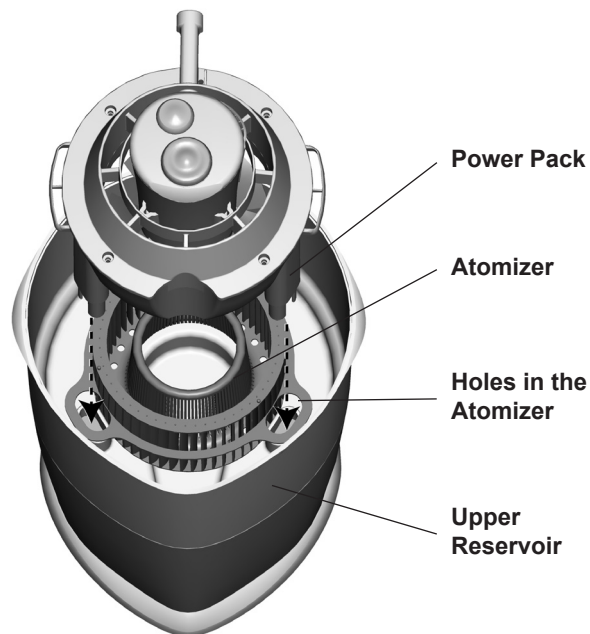

Figure 20
- Place the Power Pack into the Upper Reservoir so that the three prongs in the Power Pack go through all three holes in the Atomizer and into the three prongs in the base of the Upper Reservoir. Make sure the Power Pack is securely seated and all three prongs are in the proper position. See Figure 20.